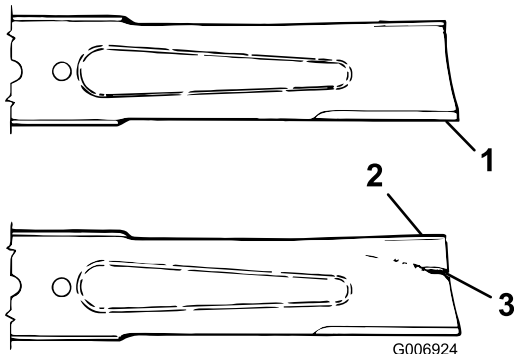

Figure 69
2. Examine the cutting ends of the blade carefully, especially where the flat and curved parts of the blade meet (Figure 69). Since sand and abrasive material can wear away the metal that connects the flat and curved parts of the blade, check the blade before using the machine. If wear is noticed (Figure 69), replace the blade; refer to Removing the Cutter Blade.
If the blade is allowed to wear, a slot will form between the sail and flat part of the blade (**Figure 69**). Eventually a piece of the blade may break off and be thrown from under the housing, possibly resulting in serious injury to yourself or bystanders.